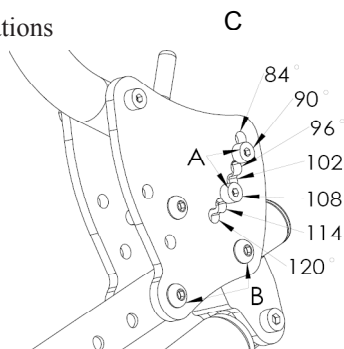

Figure 3
- a. Press up on the locking lever, indicated by C in figure 3, and lift the T-style arm straight up and out of the socket.
- i. Remove the two screws that secure the arm pad to the arm tube (item D in Figure 3).
- i. Depress button A, indicated in figure 3, then pull up or push down on the T-style arm until desired height is reached.
- a. Locking pins in (items A in Figure 3) can be repositioned to change the back angle of the chair.
- b. The available angles start at 84° in the top hole and incremented by 6° for each subsequent hole, as noted in Figure 3.
- a. To adjust between the two locking pin (back angle) positions, lift the actuator handles (item C in Figure 3) on each side of the seat back upwards to release the latches from the pins.